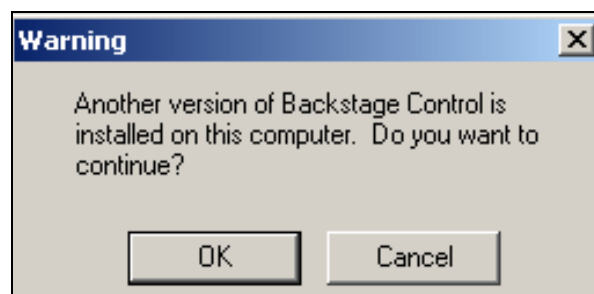

FIGURE 37: Warning Screen
4. The program searches for existing Backstage Control installations. If another version is detected, the following screen is displayed (see Figure 37). If no other version is detected, the screen in Step 5 is displayed.